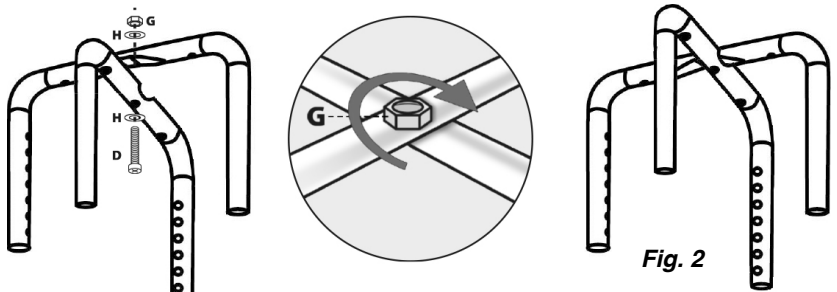

Fig. 2
2. Assemble legs as shown in Fig. 2. Ensure that nut G is fully tightened.